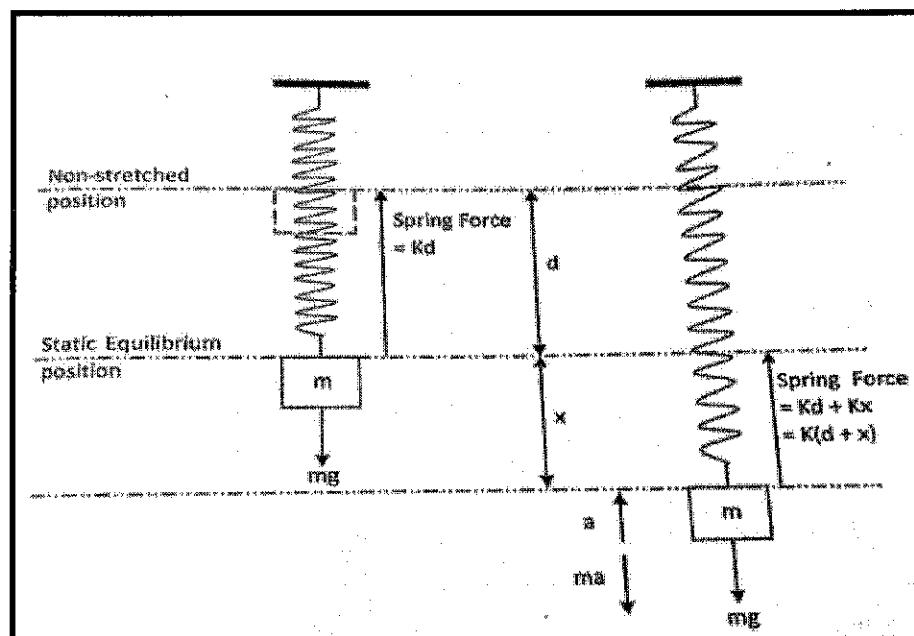

Figure 2b / Rajah 2b
- CLO2 (b) **Figure 2b** shows the Spring -Mass System and Free-Body Diagram. Explain the following symbols in Simple Harmonic Motion.